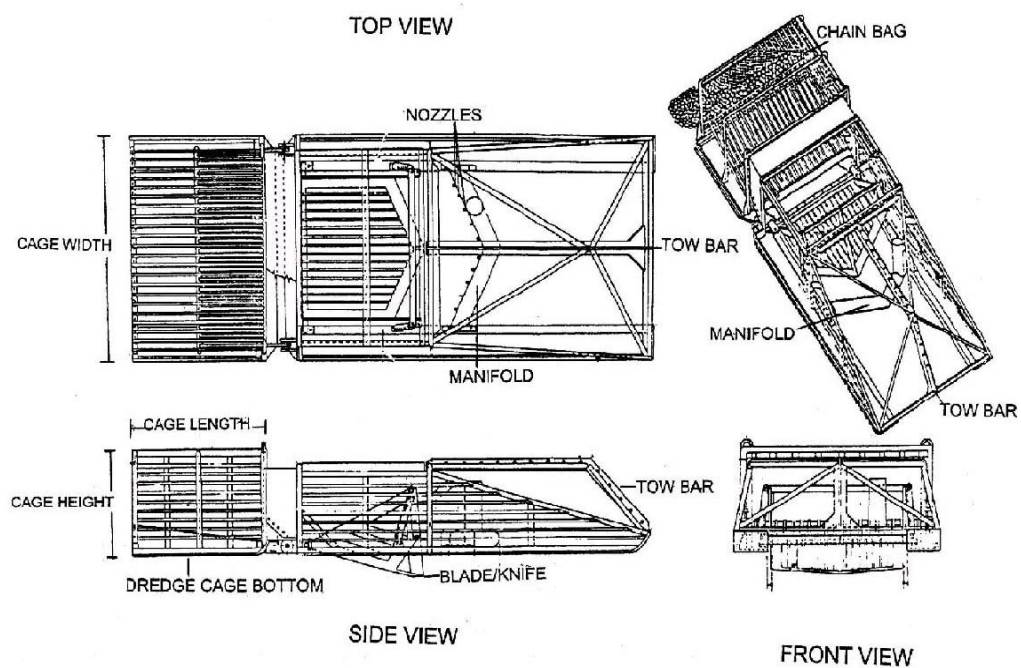

Figure 1
2. CAGE HEIGHT: Record, in whole inches, the overall height of the cage frame. Measure this distance from the bottom of the dredge cage to the top of the dredge cage. See Figure 1.
3. CAGE WIDTH: Record, in whole inches, the dredge cage width. Measure this distance from the bottom of the dredge cage to the top of the dredge cage. See Figure 1.
4. CAGE LENGTH: Record, in whole inches, the dredge cage length. Measure this distance from the bottom of the dredge cage to the top of the dredge cage. See Figure 1.